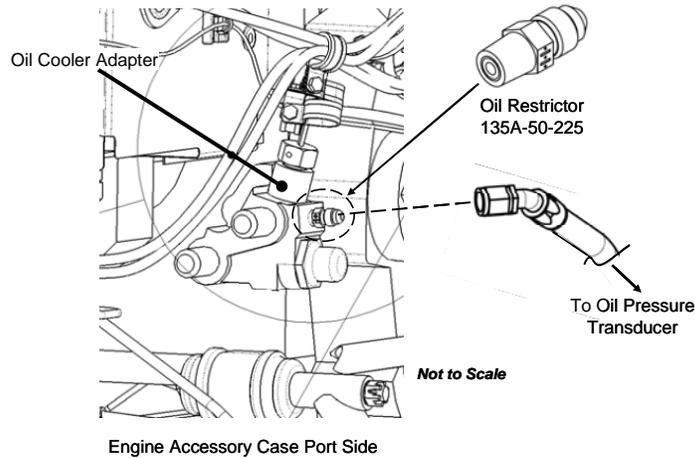

Figure 71-13 Oil Pressure Line Connection
- Connect oil pressure line from the Oil Cooler Adapter mounted Oil Restrictor as shown in Figure 71-13. Cap open connections.